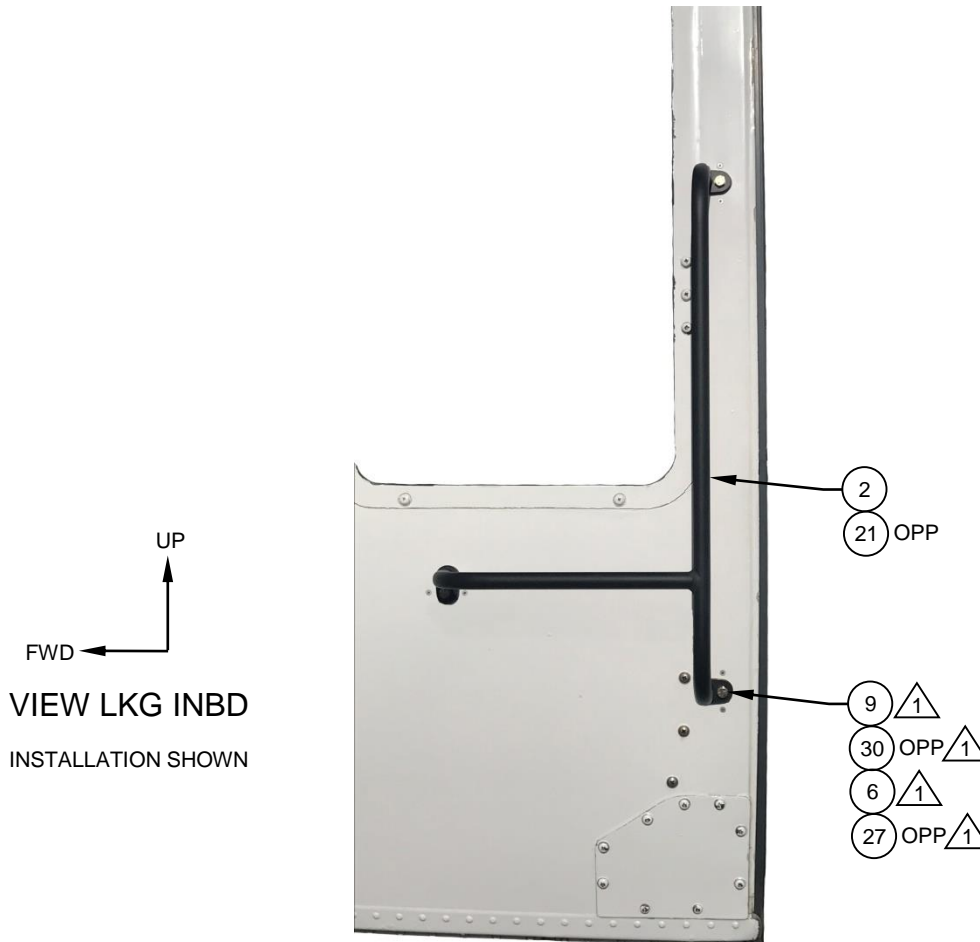

Figure 13
6. Attach the Handle, Assy (Items 2 & 21 OPP) using the supplied hardware as shown. Reference Figure 13.